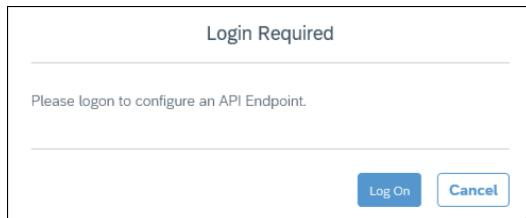

Figure 9.27 Login Page When Configuring the API Endpoint
2. If you're not already logged in, you're presented with a **Login Required** popup (Figure 9.27). Click on the **Login** button, and provide your credentials. If you're already logged in, proceed to step 4.